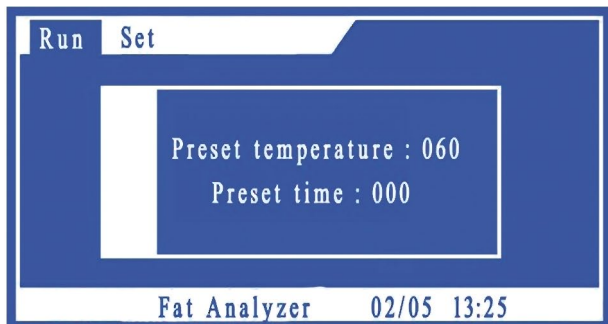

Figure 5
(3).Set temperature and time: press **【Enter】** on the operation panel to enter the operation interface (figure 5).